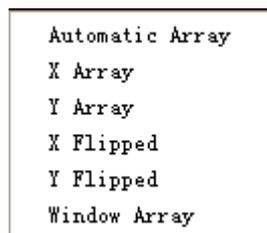
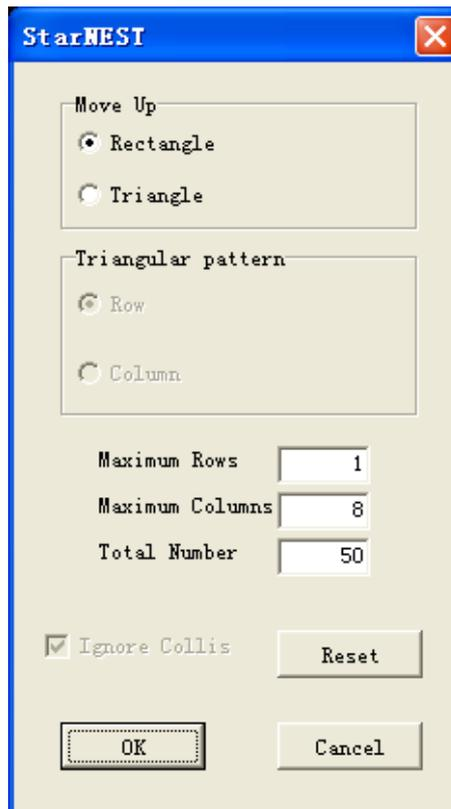

Figure 1-3
Figure 1-4
- (2) An integer more than 2 is input as quantity; click “OK”, the menu of “select matrix form” is popped up, as shown in Figure 1-3. Click “Automatic Array”, then the “automatic array setup” window is popped up, as shown in Figure 1-4.